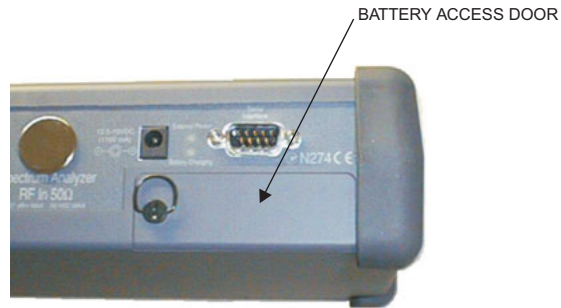

Figure 6. Battery Access Door Location
1. With the Spectrum Master standing upright on a stable surface, locate the battery access door (Figure 6).